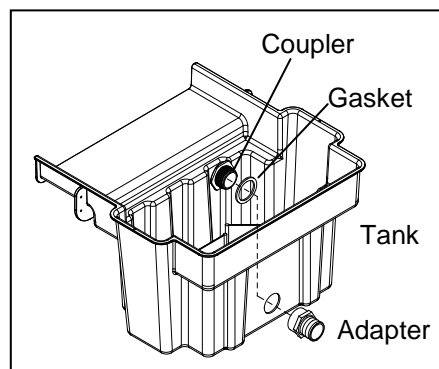

Fig. 10
10. Assembly coupler, gasket and adapter to tank. Fig. 10